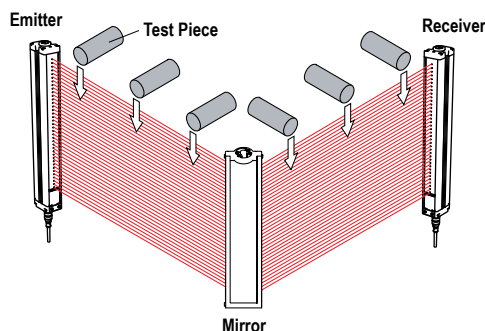

Figure 19. Trip Test with Corner Mirror
5. If mirrors are used in the application: Test the defined area on each leg of the sensing path (for example, emitter to mirror, between mirror and receiver, see Figure 19 on page 31).